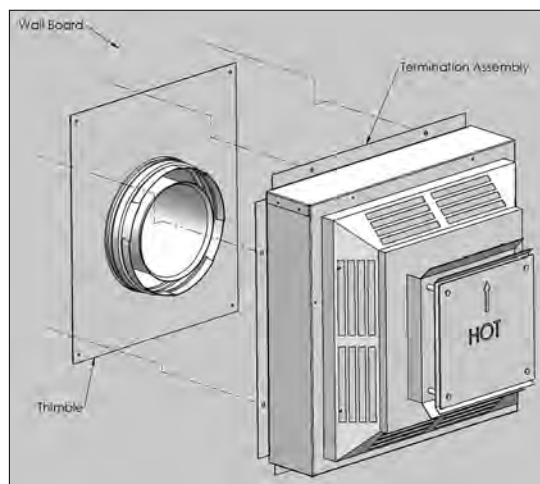
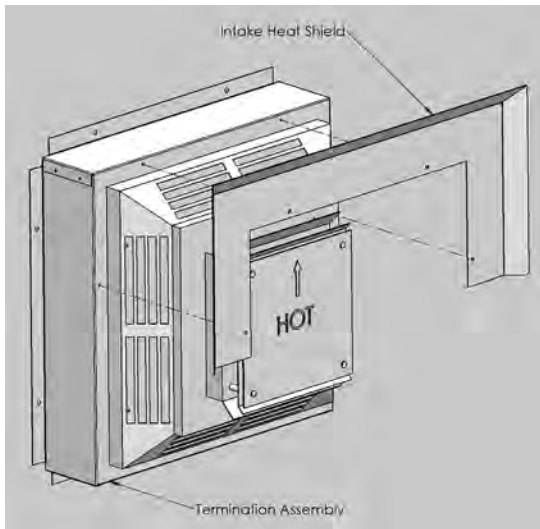

Figure 31b: Fastening Horizontal Termination Cap in Place.
Figure 32: Install Intake Heat Shield
Step 5. Place the termination assembly against the wall board with the vent termination center with the cut out hole. Secure the termination assembly to the exterior wall with eight (8) wood screws provided (refer to Figure 31b). The arrow on the vent cap should be pointing up. Ensure that proper clearances to combustible materials are maintained. Attach intake heat shield to the termination stand-off with the pre-drill holes (refer to Figure 32).